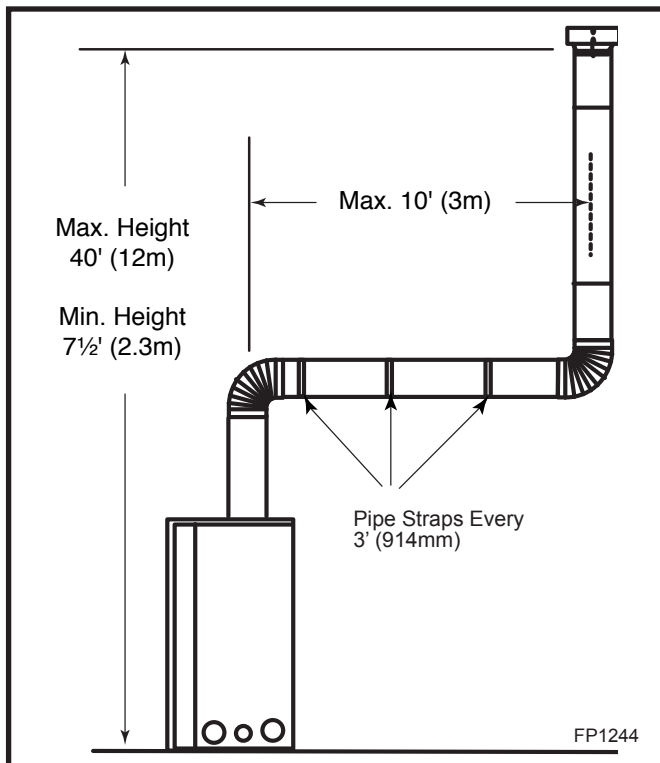

Fig. 28 Support straps for horizontal runs.
- Vertical installations up to 40' (12 m) in height. Up to a 10' (3 m) horizontal vent run can be installed within the vent system using a maximum of two 90° elbows. (Fig. 28)